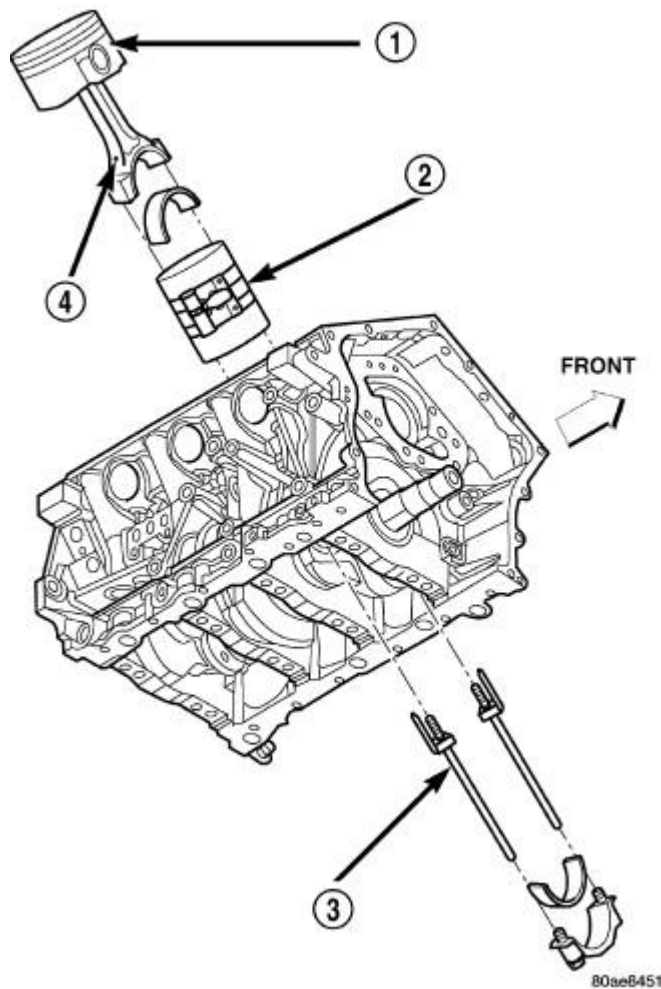

Fig. 362: Piston And Connecting Rod
5. Remove connecting rod cap. Install protectors, tool (special tool #8189, Guide Pins), on connecting rod. Refer to **Fig. 362**. Guide each piston and rod assembly out of cylinder bore.